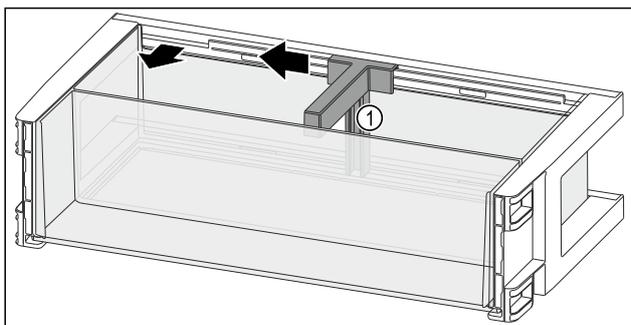

Fig. 113
- ▶ Slide the bottle holder Fig. 113 (1) to the side as far as the recess.
- ▶ Remove the bottle holder Fig. 113 (1).